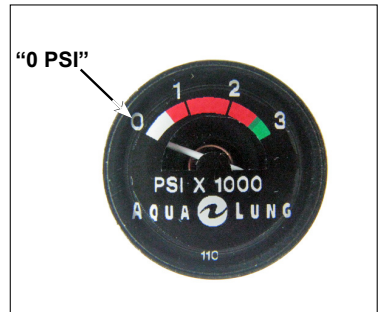

Figure 22
3. While the SEA-3000LW valve is completely shut and the system is depressurized, inspect the pressure gauge to ensure that it is securely fastened to the first stage. Closely examine the pressure gauge to ensure that it reads “0 PSI” (Fig. 22).